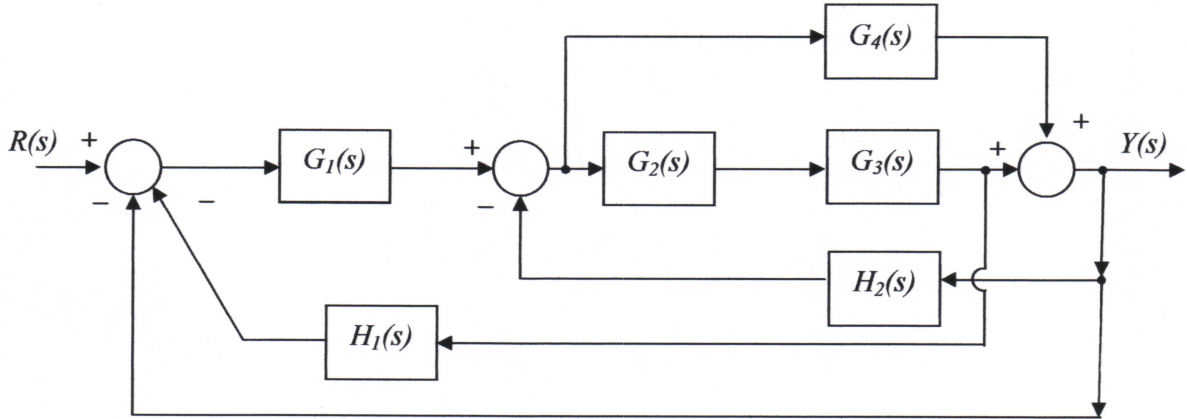

Figure Q1(c)
- (a) Give **one (1)** practical example of open loop system and **one (1)** practical example of closed loop system. (2 marks)
- (c) Determine the transfer function $\frac{C(s)}{R(s)}$ of the system shown in **Figure Q1(c)**. (12 marks)